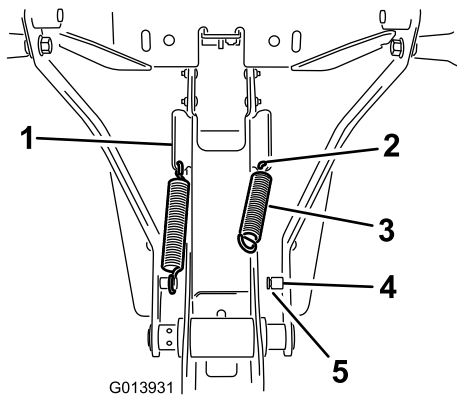

Figure 13
1. Install the spring in the hole in the lower end of the angled tab on the side of the frame assembly (Figure 13).
2. Hook one end of the spring into the hole and the other end onto the spring post (Figure 13).
3. Make sure that the spring end is seated properly in the groove in the post (Figure 13).